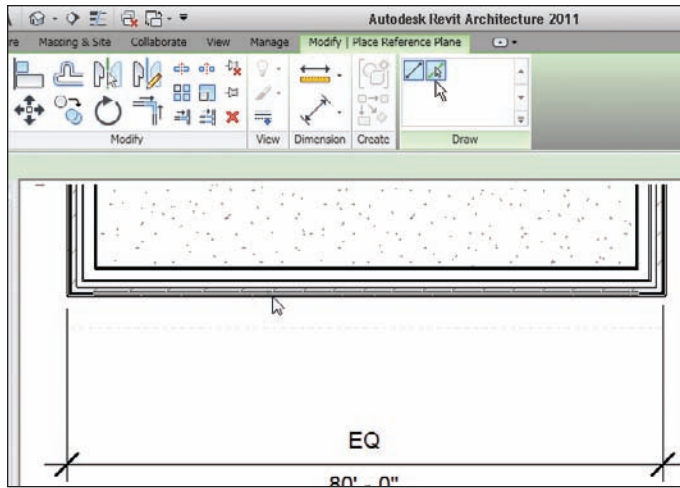

FIGURE 7.48 Adding a reference plane
16. Pick the southmost wall and offset the reference plane away from the building (see Figure 7.48).